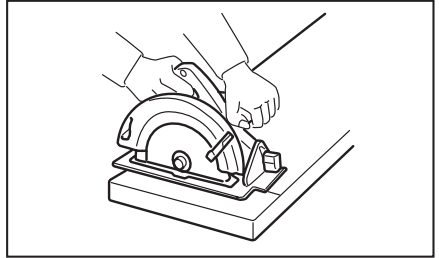
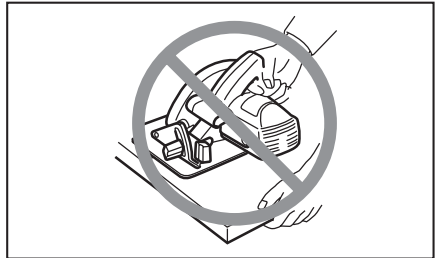

Fig. 5
Fig. 6
13. **Place the wider portion of the tool base on that part of the workpiece which is solidly supported, not on the section that will fall off when the cut is made.** As examples, Fig. 5 illustrates the **RIGHT** way to cut off the end of a board, and Fig. 6 the **WRONG** way. If the workpiece is short or small, clamp it down. **DO NOT TRY TO HOLD SHORT PIECES BY HAND!**